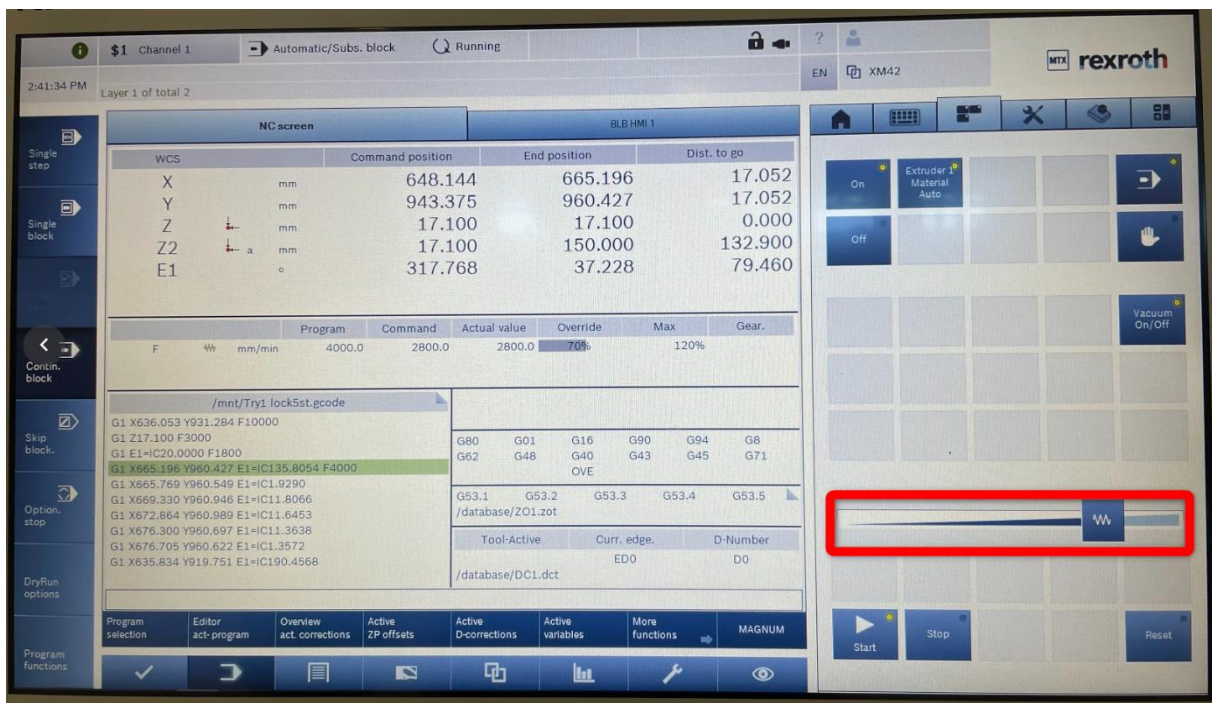

Figure 27
12. Adjust the printing speed by dragging the speed bar horizontally (fig 27).